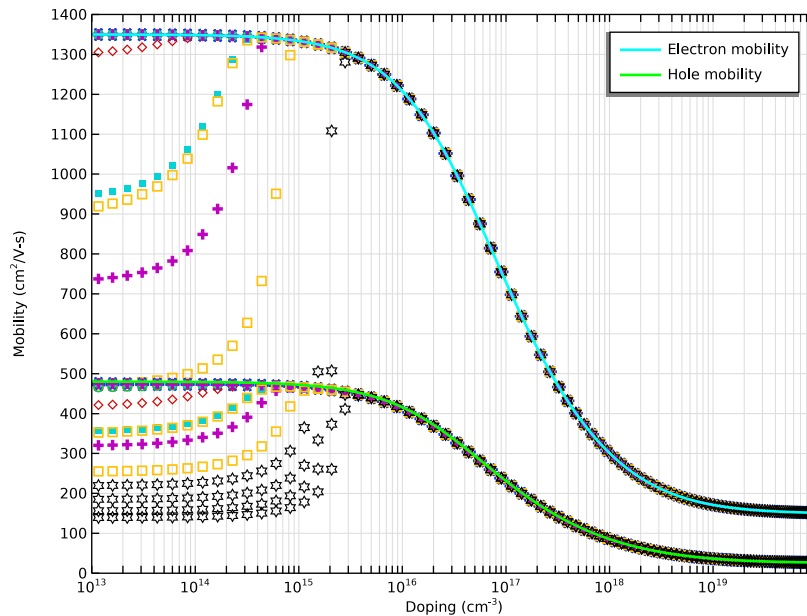

Fig. 2B Velocity vs. Electric Field
- 2 In the **Settings** window for **ID Plot Group**, type Fig. 2B Velocity vs. Electric Field in the **Label** text field.
- 1 In the **Model Builder** window, expand the **Fig. 2B Velocity vs. Electric Field** node, then click **Line Graph 1**.
- 1 In the **Model Builder** window, under **Results > Fig. 2B Velocity vs. Electric Field** click **Line Graph 3**.
- 9 In the **Fig. 2B Velocity vs. Electric Field** toolbar, click  **Plot**.